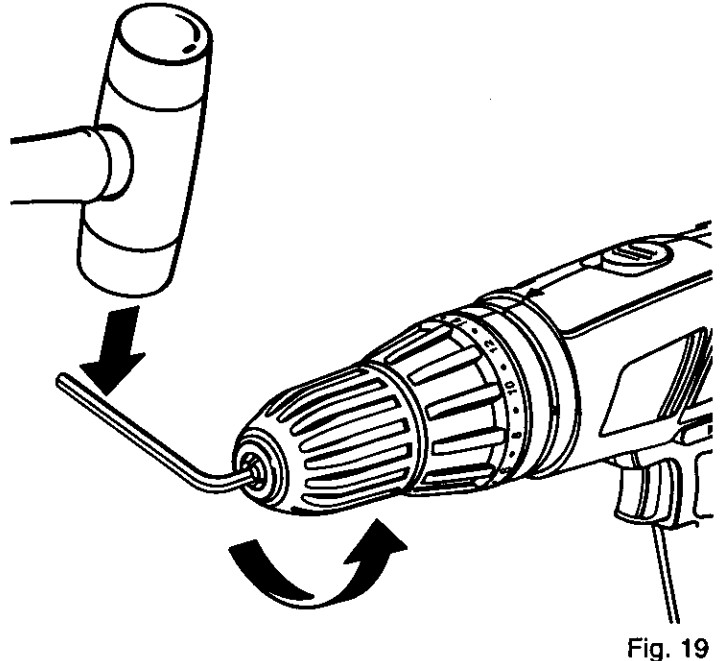

Fig. 19
- Insert hex key wrench in chuck and tighten chuck jaws securely. Tap sharply with a mallet in a counter-clockwise direction. This will loosen chuck on the spindle. It can now be unscrewed by hand. See Figure 19.